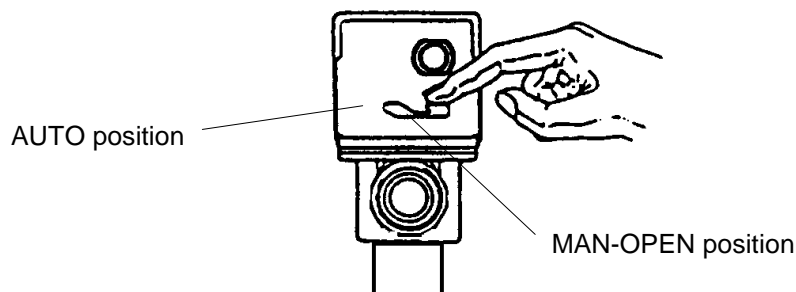

Fig. no. 22 Honeywell V4044F three-way valve operation
15. After the system has been filled with water set the Honeywell V 4044F three-way valve operation lever from the MAN-OPEN position into AUTO position see. fig. no. 22 (if the HWS preparation is installed).